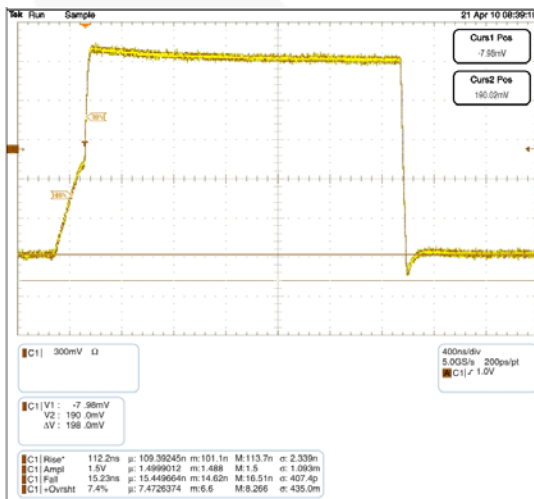

Figure 14. Rise Time Driving 600pF Load
Due to the I2C open-drain topology, I2C drivers are not push/pull devices. Logic LOWs are “pulled down” ( $I_{sink}$ ), while logic HIGHs are “let go” (3-state). For example, when the source lets go of SCL (SCL always comes from the source), the rise time of SCL is largely determined by the RC time constant, where  $R=R_{PU}$  and  $C$ =the bus capacitance. If the FXMHD103 is attached to the source [on the A port] and there is a source on the C port, the Npassgate acts as a low-resistive short between both ports until either of the port’s  $V_{CC/2}$  thresholds is reached. After the RC time constant has reached the  $V_{CC/2}$  threshold of either port, the port’s edge detector triggers both dynamic drivers to drive their respective ports in the LOW-to-HIGH (LH) direction, accelerating the rising edge. The resulting rise time resembles the scope shot in Figure 14. Effectively, two distinct slew rates appear in rise time. The first slew rate (slower) is the RC time constant of the bus. The second slew rate (much faster) is the dynamic driver accelerating the edge.
The FXMHD103 dynamic drivers have enough current sourcing capability to drive an 800pF capacitive bus. The Figure 14 scope shot is of an FXMHD103 driving a lumped load of 600pF. Notice the (30% - 70%) rise time is only 112ns ( $R_{PU}=5K\Omega$ ). This is well below the maximum rise time of 1000ns in Standard Mode (100KHz) or 300ns in Fast Mode (400KHz).